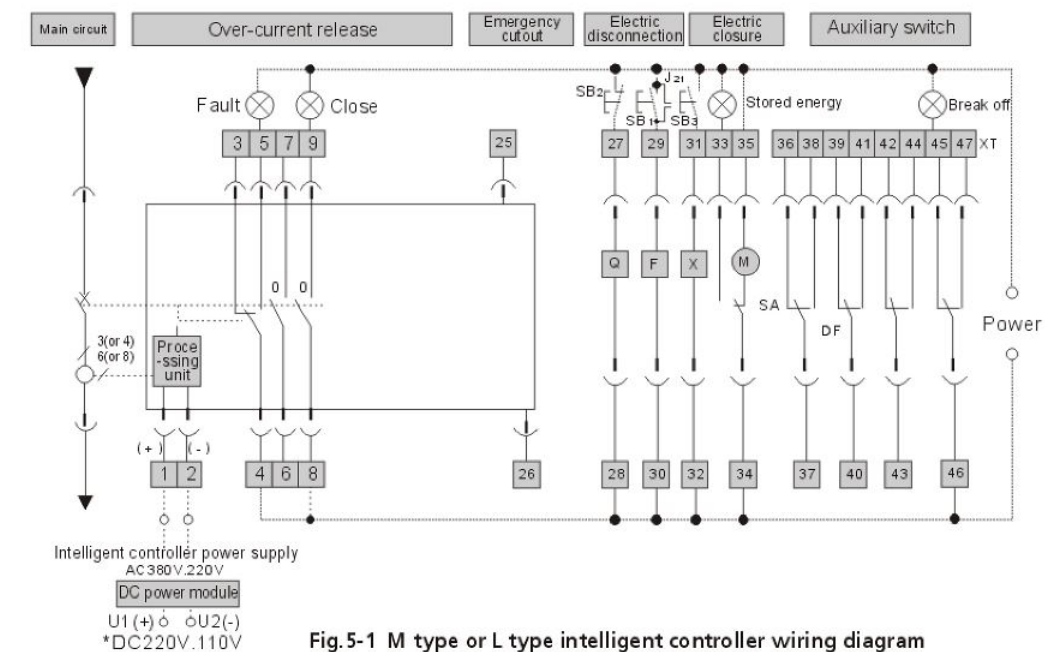

Fig.5-1 M type or L type intelligent controller wiring diagram
- (1) If the control voltage for Q, F, X, M is different, they shall be connected to different voltage sources.
- (2) Terminal #35 can directly connect with power source (automatically pre-charge energy), also able to connect in series with NC then power source (hand operate pre-charging energy).
- (3) If user required, terminal #6, #7 can connect with NC contact.
- (4) Outer additional accessories shall be provided by user.
- (5) When working source for controller is DC, it shall add DC source module (in this case, terminal #1, #2 not allowed to connect with AC input source).
- (6) Source module overall and installation dimension as figure 5-1.
- (7) Secondary wire connection as drawing (DC source DC 110V or 220V input from U1(+), U2(-), anode of the two output terminals of DC source module connected to 1(+), negative electrode connected to 2(-).